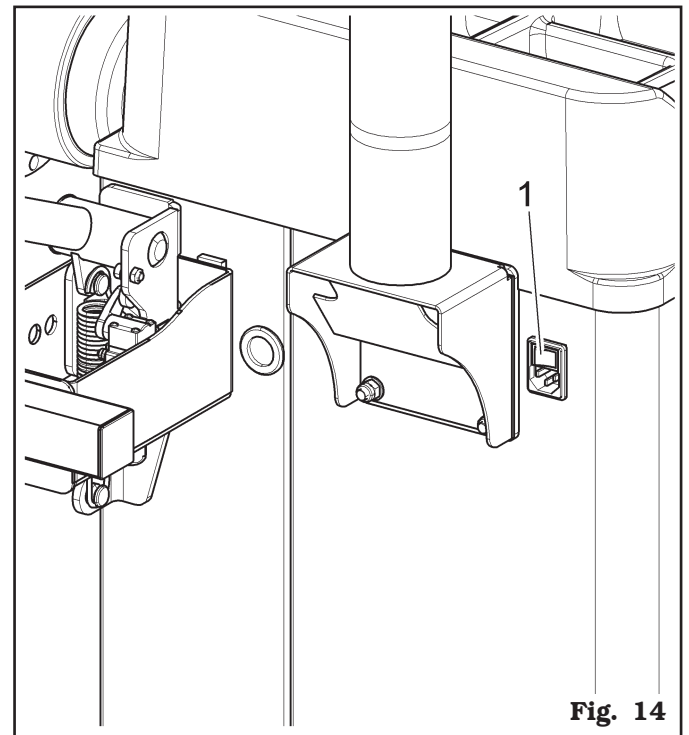

Fig. 14
Once the plug/socket connection has been made, turn on the machine using the master switch (Fig. 14 ref. 1).
Press the "ON" switch (**Fig. 14 ref. 1**), located in the rear part of the equipment.
In order to turn off the machine, simply press the "OFF" switch (**Fig. 14 ref. 1**).